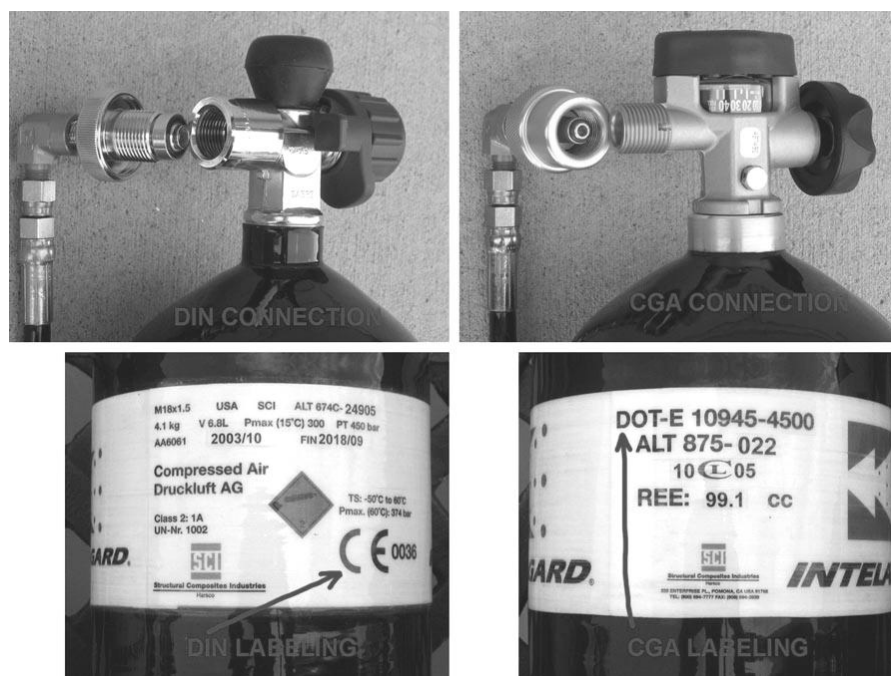

Figure 7.3.1 – Example of the types of valve assemblies available – DIN on the left, CGA (standard) on the right
7.3.1 Third-party manufactured cylinders used in the Merlin **must be compliant** with DOT, CGA, DIN and/or CE regulations/certifications. Look for this information on the data plate. See Figure 7.3.1 for example DIN, CGA, CE, and DOT cylinder marking examples. **Use of non-compliant cylinders will void your warranty!!**